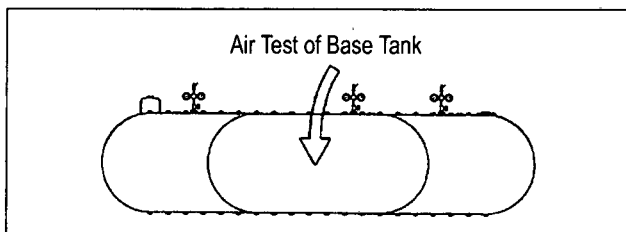

FIGURE 4-2
4.5.2. Pressurize the primary tank. See SECTION 3.5 and FIGURE 4-2.